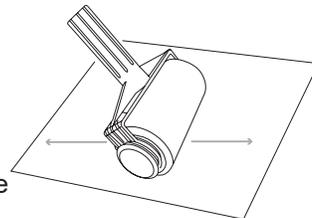

Fig. 2
5. Now filter the paint through to the Paint Roller by running it over old newspaper for 2-3 minutes or until paint is visible all over the roller (Fig. 2)